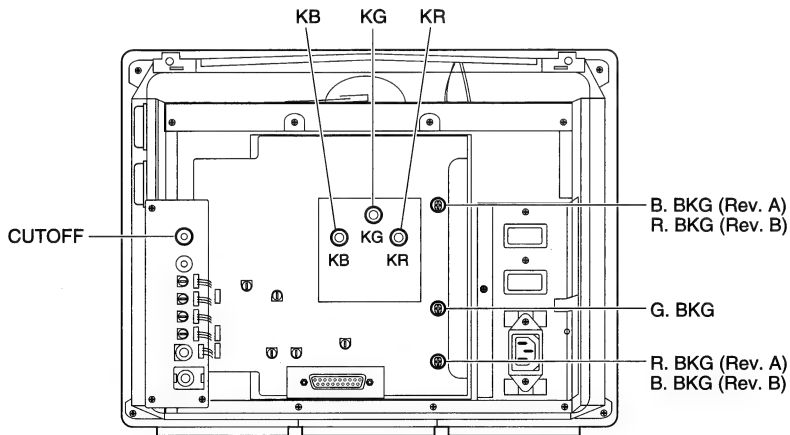

Figure 6 Cutoff, Color Background, and "C" Board Controls
5. FIGURE 6. Place the voltmeter red lead at KR on the video ("C") board. Gradually turn the R.BKG control until the DC voltage at KR measures 140 volts \pm 2 volts.
6. FIGURE 6. Place the voltmeter red lead at KG on the "C" board. Turn the G.BKG control until the DC voltage at KG measures 140 volts \pm 2 volts.
7. FIGURE 6. Place the voltmeter red lead at KB on the "C" board. Turn the B.BKG control until the DC voltage at KB measures 140 volts \pm 2 volts.
8. FIGURE 6. Turn the CUTOFF control clockwise until the screen raster is just visible. Then turn the CUTOFF control counterclockwise until the raster disappears completely. If you are unable to complete this step, stop the adjustment procedure and repair the monitor.